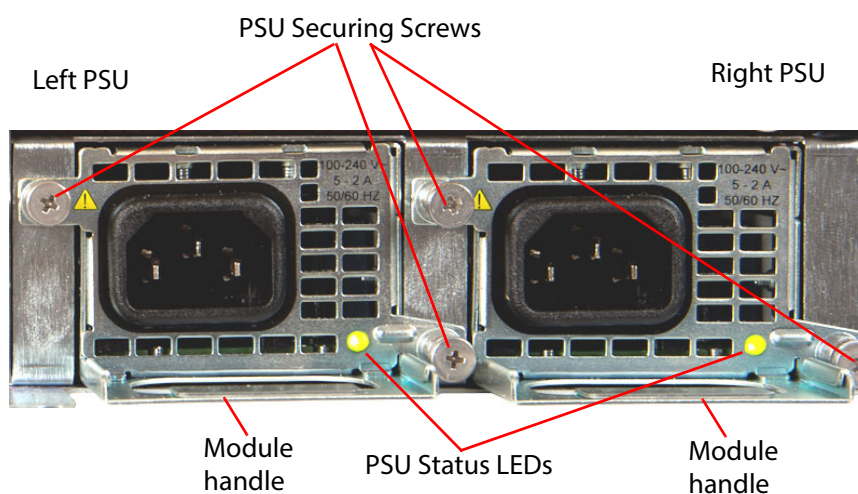

Fig. 6-4: MV-821 Multiviewer Rear PSU modules
Two PSU modules are fitted into the rear of the MV-821 chassis. Each is secured with two fixing screws, see Figure 6-4.
- 2 Unscrew two PSU securing screws, see Figure 6-4.
- 1 Note the orientation of a PSU module in the MV-821 chassis, see Figure 6-4.
- 3 Tighten the two PSU securing screws, see Figure 6-4.